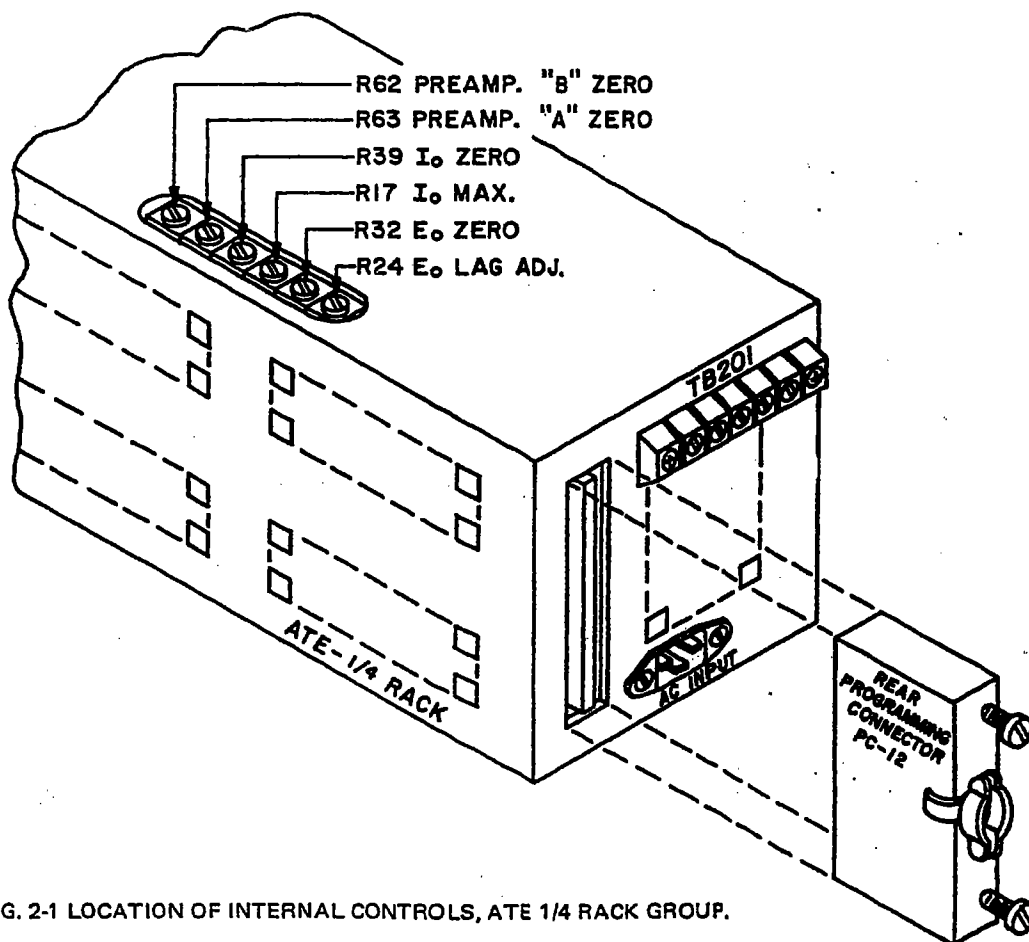

FIG. 2-1 LOCATION OF INTERNAL CONTROLS, ATE 1/4 RACK GROUP.
- c) INTERNAL CONTROLS: Refer to FIG. 2-1 and Table 2-1.
- 2-19 LAG NETWORK ADJUSTMENT. The ATE power supply operating in the "fast" mode, is dynamically stabilized by means of an internal lag network (E_o LAG, R24, see FIG. 2-1 for location). This control should be adjusted, for each application, by monitoring the load with an oscilloscope and turning the LAG control for best output response and maximum dynamic stability under all operating conditions.